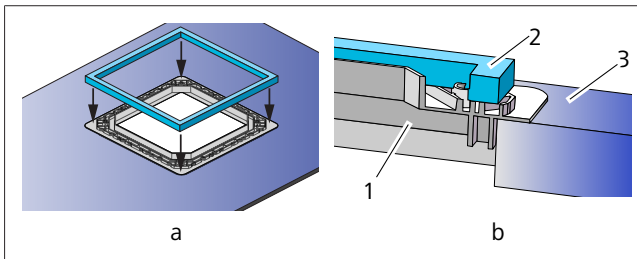

Fig. 13 Mounting the gasket on an adaptor frame (400 x 400 cut-out)
1. Peel off the backing paper and stick the gasket to the adaptor frame (400 x 400 cut-out). See Fig. 13-a and b.